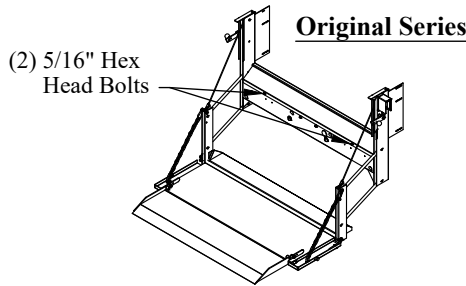

Figure 6: Box cover location.
1. **Remove** the box cover by removing the 5/16" hex head bolts or nuts (Figure 6).